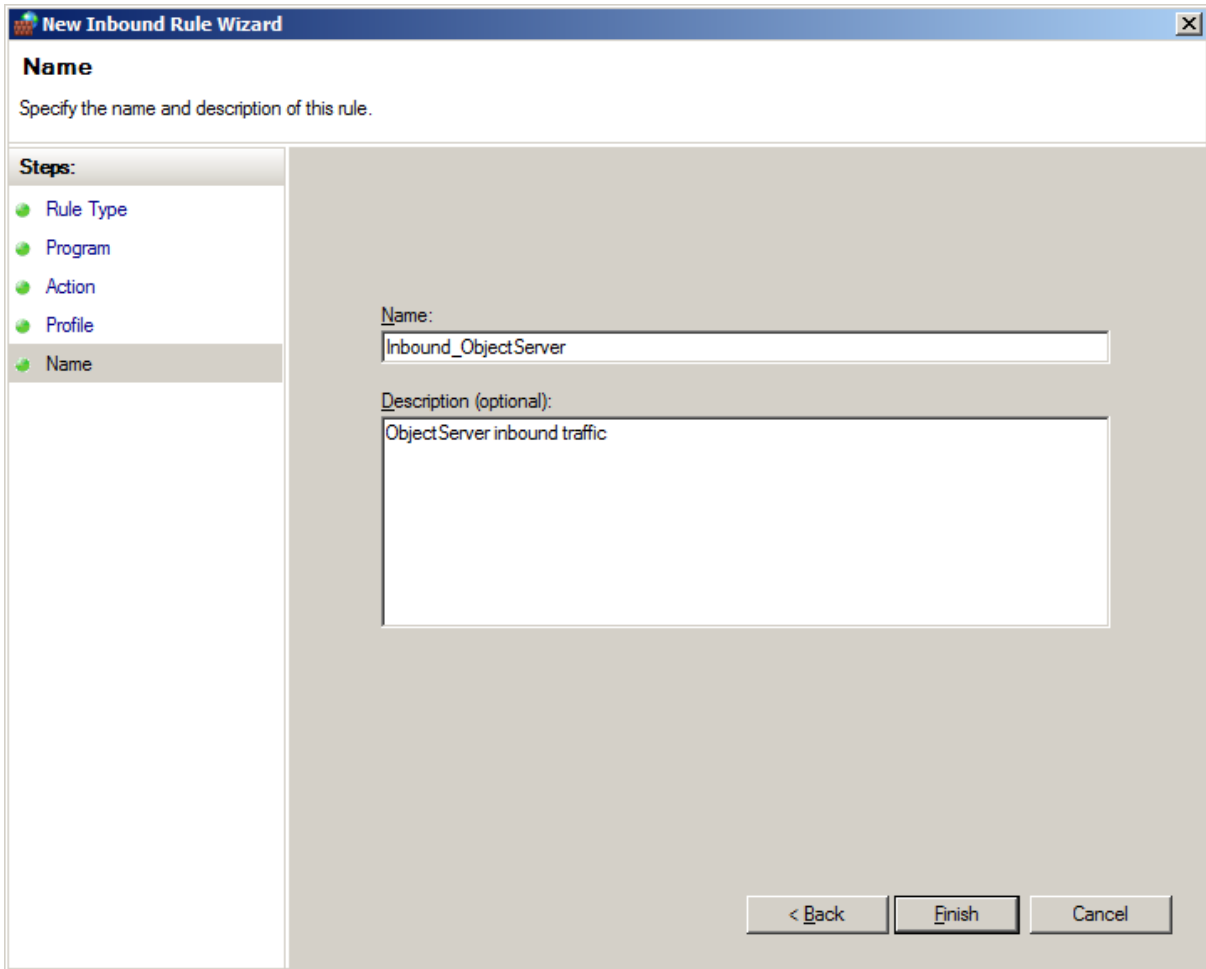

Figure 2-60. Name the Rule
5. On the Name page of the New Inbound Rule Wizard, specify a **Name** for the rule, and optionally enter a description. Then click **Finish**. This is similar to *Figure 2-60*.